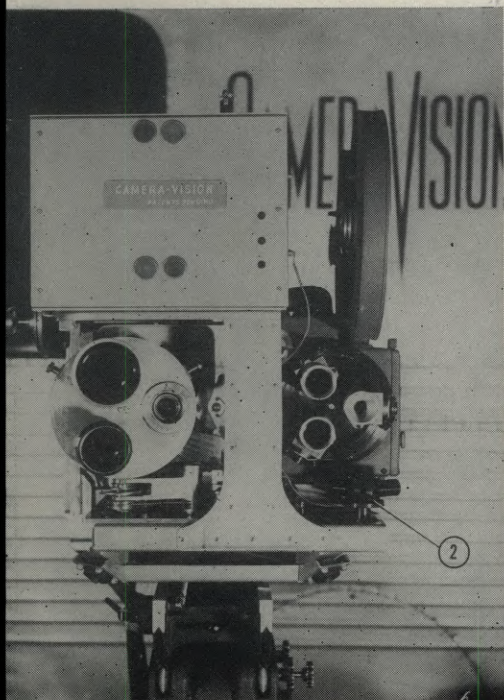

FIG. 4—FRONT VIEW showing blimp removed. The
FIG. 4—View of opposite or film side of the camera. Here, doors are removed from the displacement-type film magazine (6), which holds 400-ft. of film. Also seen is the 3-lens turret (5) and the motor (7), which is readily demountable.